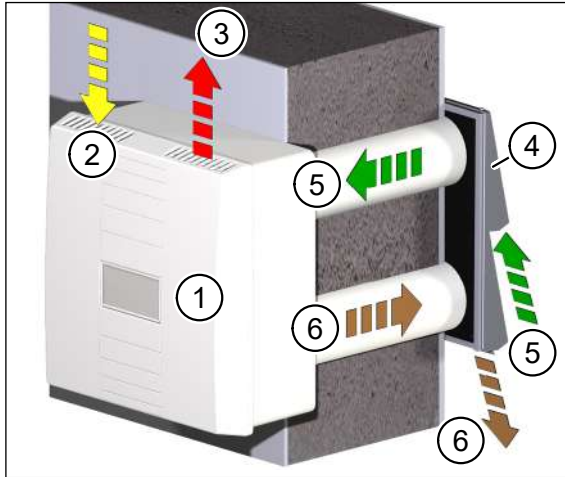
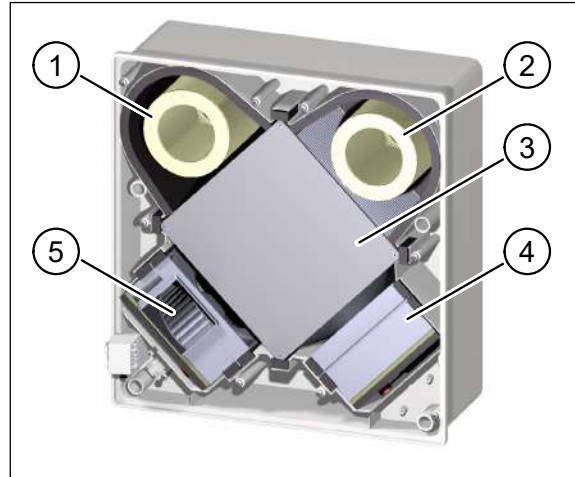

Fig. 7: How the ventilation unit works
Fig. 8: Components for air exchange
Item in Fig. 7	Designation
Item in Fig. 8	Designation
The fans are arranged on the supply air and exhaust air sides. The supply air fan (item 5 in Fig. 8) transports outdoor air (item 5 in Fig. 7) through the outdoor air filter (item 2 in Fig. 8) and cross-flow plate heat exchanger (item 3 in Fig. 8) into the interior as supply air (item 3 in Fig. 7). The exhaust air fan (item 4 in Fig. 8) extracts the extract air (item 2 in Fig. 7) from the interior. In the extract air filter (item 1 in Fig. 8), the extract air is cleaned, guided through the cross-flow plate heat exchanger and carried outside as exhaust air (item 6 in Fig. 7).